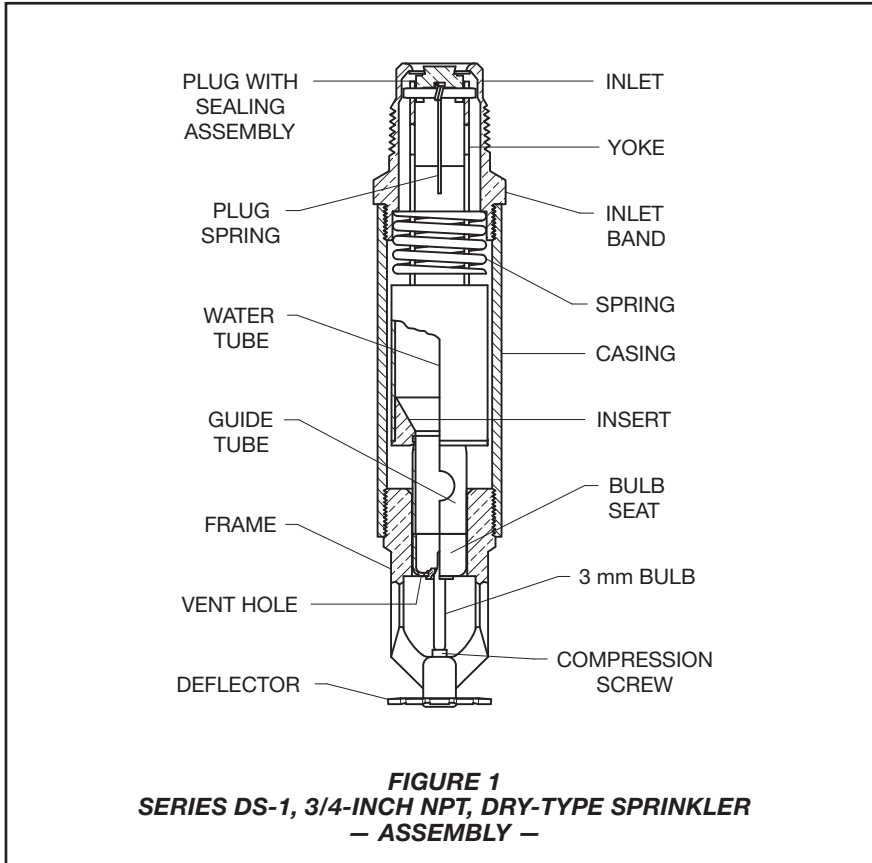

FIGURE 1
When the TYCO Series DS-1 Dry-Type Sprinkler is in service, water is prevented from entering the assembly by the Plug with Sealing Assembly in the Inlet of the Sprinkler. See Figures 1 and 2.
- a pipe wrench on the Inlet Band or the Casing (Figures 1 and 2)
A Vent Hole is provided in the Bulb Seat (Figures 1 and 2) to indicate if the Dry-Type Sprinkler is remaining dry. Evidence of leakage from the Vent Hole indicates potential leakage past the Inlet seal and the need to remove the sprinkler to determine the cause of leakage; for example, an improper installation or an ice plug. Close the fire protection system control valve and drain the system before removing the sprinkler.